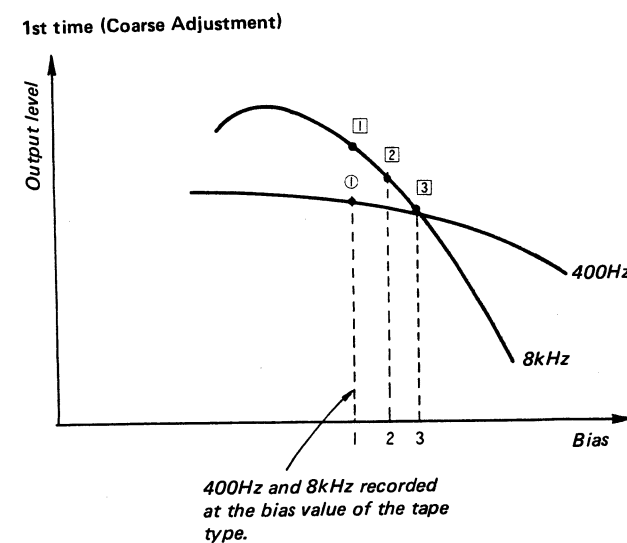

Fig. 18-1
2. The playback level at this time is detected and memorized. Next, 8kHz is recorded at the same level as in Fig. 18-1. The level at this time and the 400Hz level are compared.
3. At this point the bias is deepened so that the 8kHz and 400Hz levels become equal, or so that the 8kHz level is lower than the 400Hz level. (See Fig. 18-1, Coarse Adjustment)